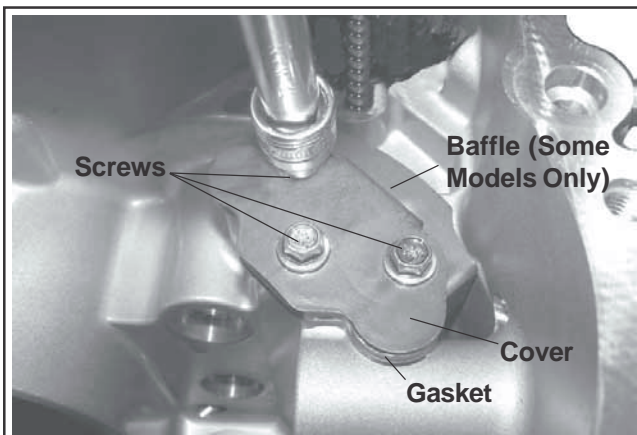

Figure 8-62. Removing Lifter Feed Chamber Cover Components.
1. Remove the three screws securing the lifter feed chamber baffle (some models only), cover, and gaskets. Carefully separate the parts from the crankcase. See Figure 8-62.